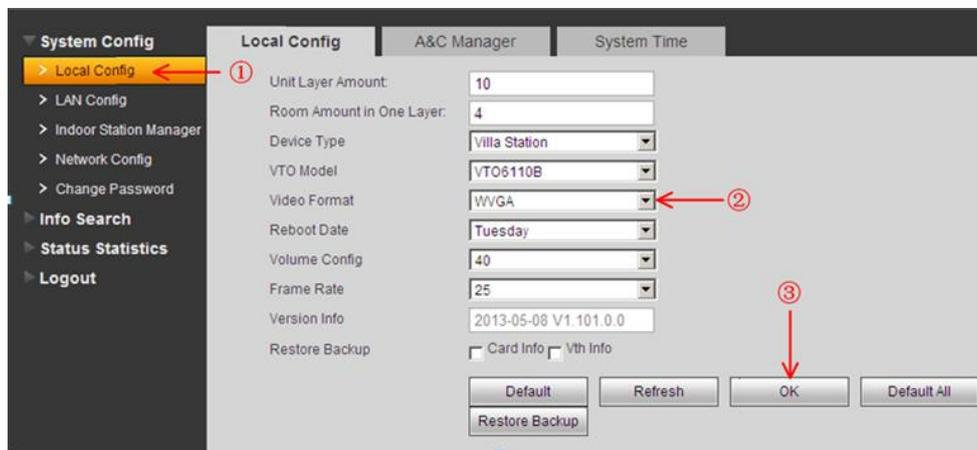

Figure 2-2
**Step 1** Check system Config>Local Config> set Video Format into WVGA, see Figure 2-2